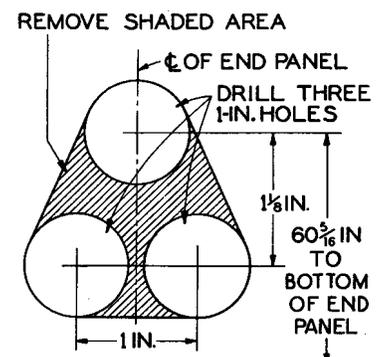

Fig. 11 — Hole for 2D Fixture
- For 2D fixture, follow instructions in Fig. 11.